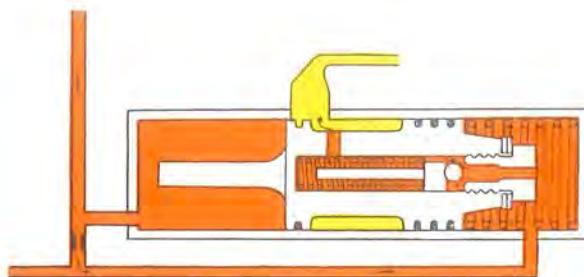

Fig. 6-38. Control valve, maximum pressure
Should the pump flow through the outlet be stopped, for example, because the front wheel turning is blocked, the pressure in the delivery line (1), will rise and the pressure difference between both ends of the control valve will be equalized. This will cause the spring to be moved to the left, the connection with the return channel to be closed and the pressure to rise even more. At about 75 kg/cm² (1066 lb/sq.in.) the spring pressure on the safety valve (6) is overcome, that is, the inner part of the control valve, and oil can then pass out to the return channel (4), see Fig. 6-38. The pressure on the right-hand side of the piston will then drop and the entire control valve will be moved to the right so that the connection with the return channel opens. When the pressure drops to its normal value, the safety valve closes and the control valve returns to its normal position.